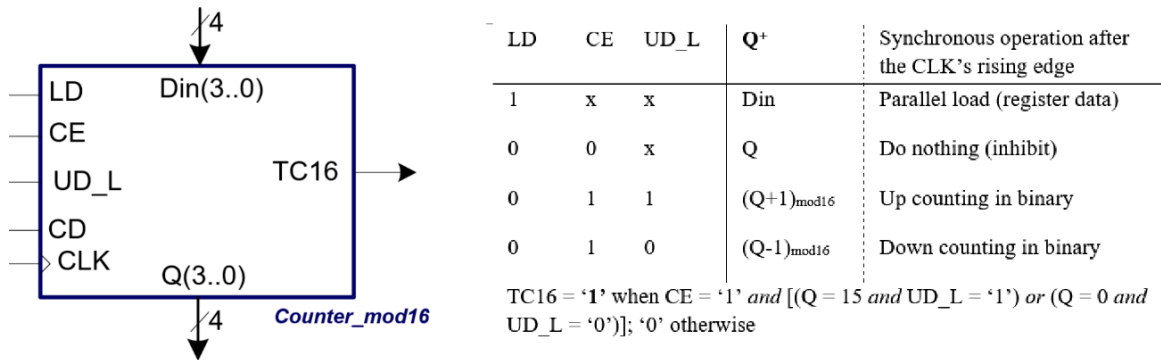

Fig. 3. Symbol of the 4-bit standard universal binary radix-2 counter component (*Counter\_mod16*).
Invent a synchronous BCD down counter module 72 (*Counter\_BCD\_mod72*) with count enable (CE) and terminal count (TC72) using **plan C2** and standard components such *Counter\_mod16* (Fig. 3) and other circuits if necessary.